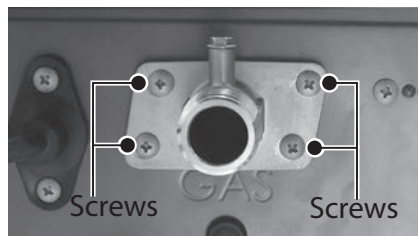

Figure 78 - Gas inlet connector location and screws
- 6 Locate the gas inlet connector on the bottom side of the water heater. See Figure 78. Remove the four screws securing the gas inlet connector to the water heater cabinet. Place screws aside in a safe place for reinstallation.